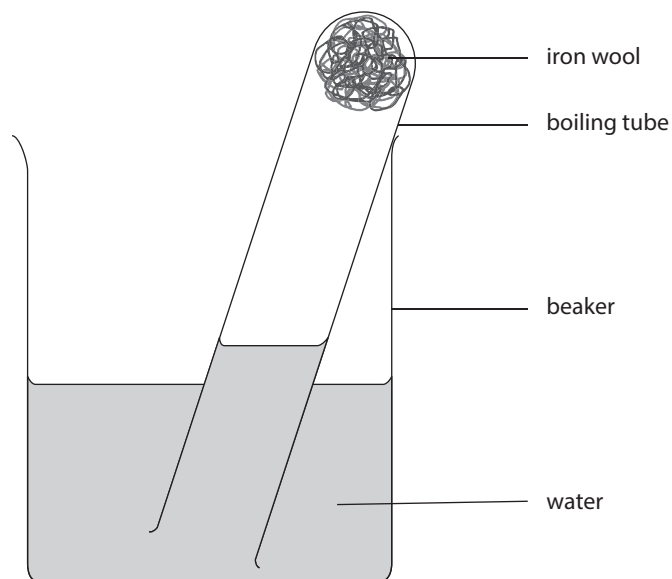

Figure 1.1
- 5 Carefully remove the bung from the boiling tube (Figure 1.1).